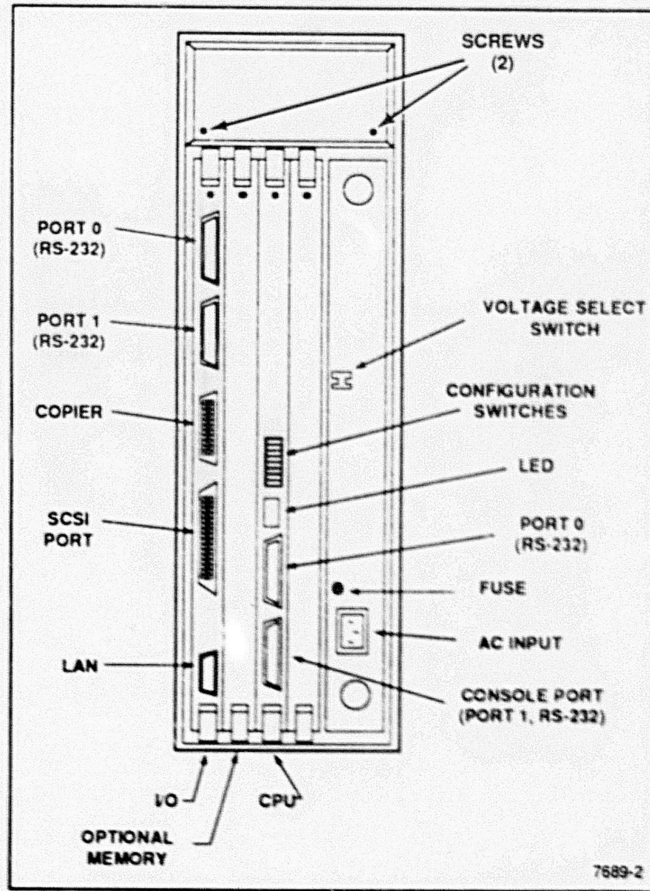

Figure 4. Mass Storage Subassembly Rear Mounting Screws.
2. Remove the two screws securing the fixed disk cover (located at the rear of the Compute Module), then remove the cover; see **Figure 4**.